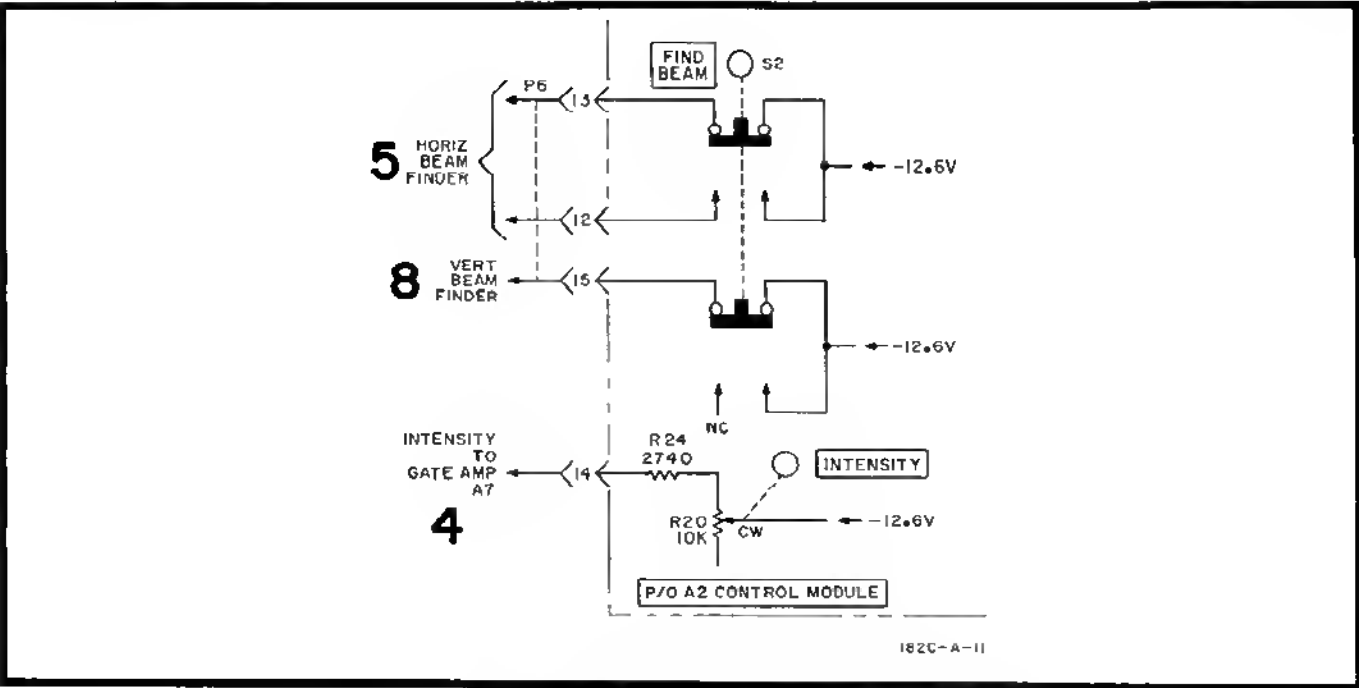
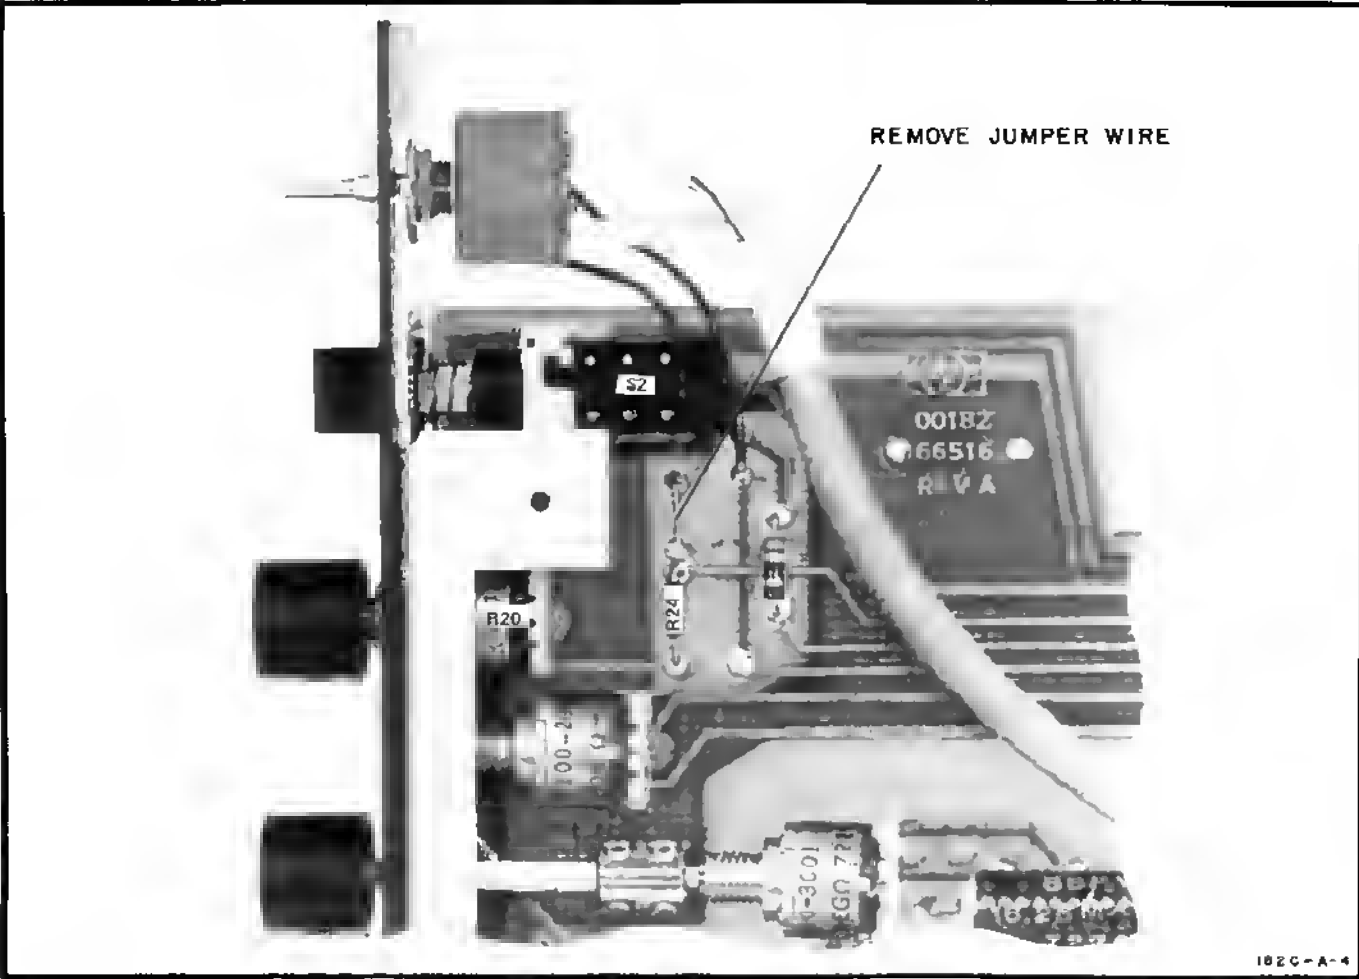

Figure 7-1. Option 011 Beam Finder Schematic
Figure 7-2. Location of Option 011 Circuit Change
011	Standard CRT (VI) is replaced by P11 phosphor CRT, HP Part No. 5083-3942. The intensification function of the FIND BEAM switch is deleted on Option 011 instruments equipped with P11 phosphor CRT to eliminate phosphor burn. Figure 7-1 shows the change to the schematic for the Control Module, A2. Figure 7-2 illustrates the location of the jumper wire to be removed. If the CRT is replaced with a standard P31 phosphor CRT, the FIND BEAM intensification capability may be restored by replacing the jumper wire.